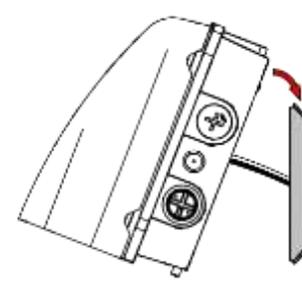

Figure 3
4. Hook the fixture on the Quick Mount Bracket and secure to the fixture to the bracket by tightening the Set Screws [Figures 3 and 4].